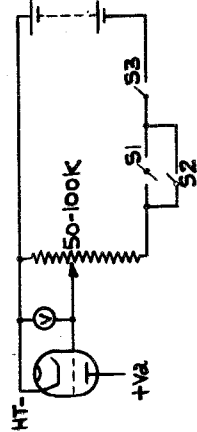

FIG. 2.
4. This variation may be obtained by use of the circuit shown in Fig. 2, page 4, S1 being a contact breaker driven by an electric motor or other suitable means. The D.C. volt meter (V) may be used to set the contact breaker so that it is open (or closed) for 50% of the time, by making the mean reading with the breaker running, 50% that with the breaker closed.